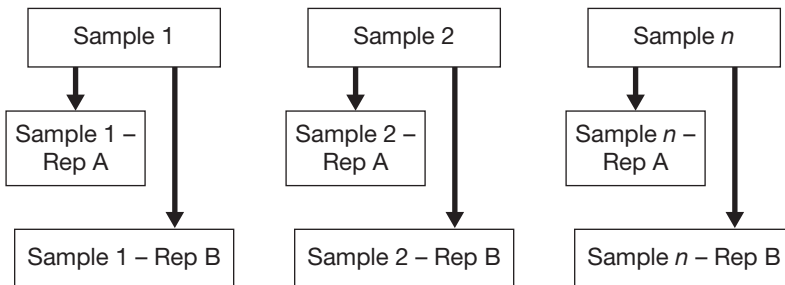

Figure 3 Replicates for the workflow for a global internal standard
3. Split each digest into Replicates A and B, each containing 100 μg of protein (see Figure 3 on page 20).